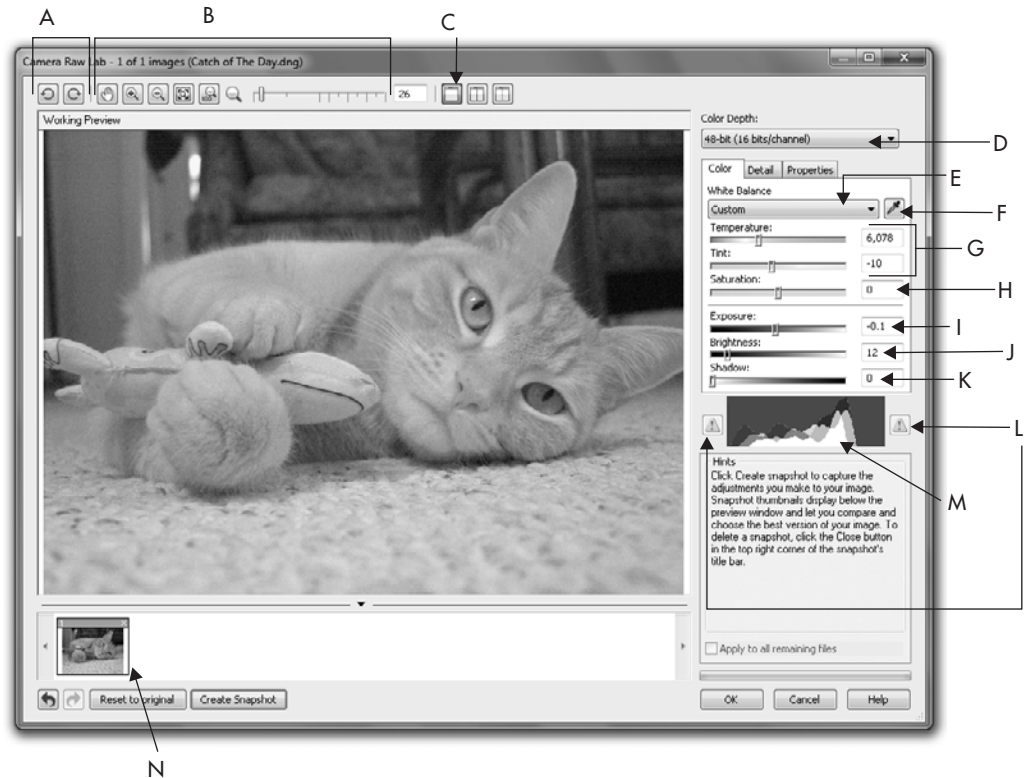

FIGURE 23-4 Use the Camera RAW Lab to color- and tone-correct high-quality digital images.
5. Click the Color tab; here's where the fun begins. Follow the callout letters in Figure 23-4 to guide you through which features do what.